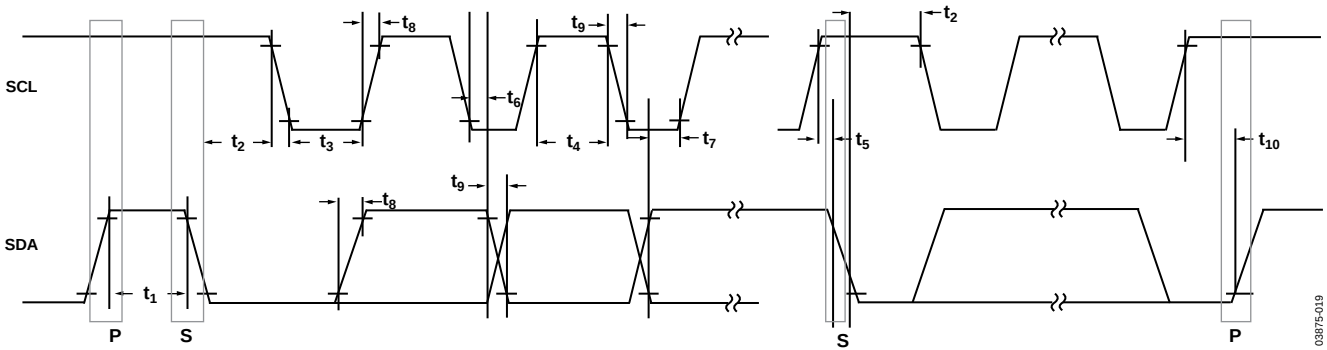
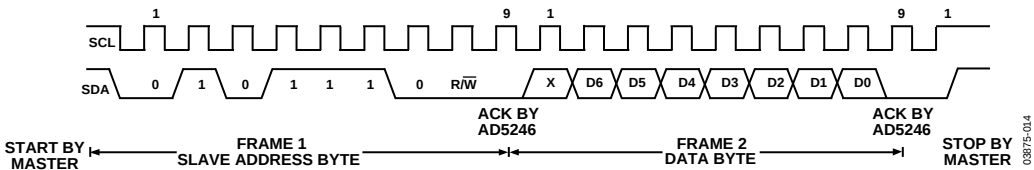
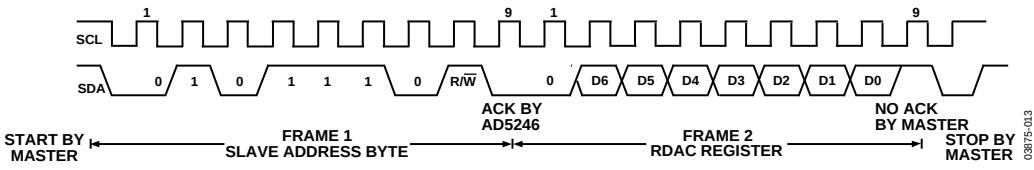

Figure 26. I²C Interface, Detailed Timing Diagram
Figure 27. Writing to the RDAC Register
Figure 28. Reading from the RDAC Register
³ See timing diagrams (Figure 26, Figure 27, and Figure 28) for locations of measured values.
1. The master initiates data transfer by establishing a START condition, which is when a high-to-low transition on the SDA line occurs while SCL is high (see Figure 27). The following byte is the slave address byte, which consists of the 7-bit slave address followed by an $R/\overline{W}$ bit (this bit determines whether data will be read from or written to the slave device).
3. In read mode, after acknowledgment of the slave address byte, data is received over the serial bus in sequences of nine clock pulses (a slight difference from the write mode where eight data bits are followed by an acknowledge bit). Similarly, the transitions on the SDA line must occur during the low period of SCL and remain stable during the high period of SCL (see Figure 28).
4. When all data bits have been read or written, a STOP condition is established by the master. A STOP condition is defined as a low-to-high transition on the SDA line while SCL is high. In write mode, the master pulls the SDA line high during the tenth clock pulse to establish a STOP condition (see Figure 27). In read mode, the master issues a No Acknowledge for the ninth clock pulse (that is, the SDA line remains high). The master then brings the SDA line low before the tenth clock pulse, which goes high to establish a STOP condition (see Figure 28).